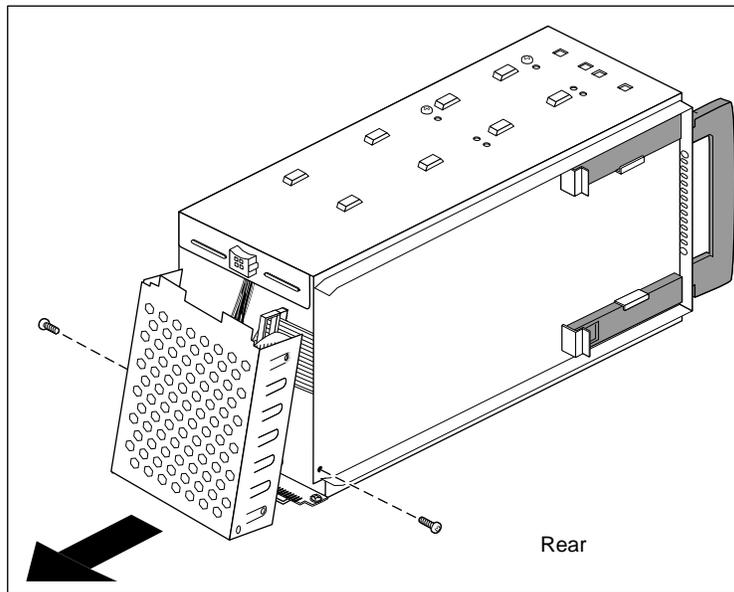

Figure 6-7 Removing the Rear Access Plate From the Peripheral Carrier
3. Remove the rear access plate from the peripheral carrier, as shown in Figure 6-7.